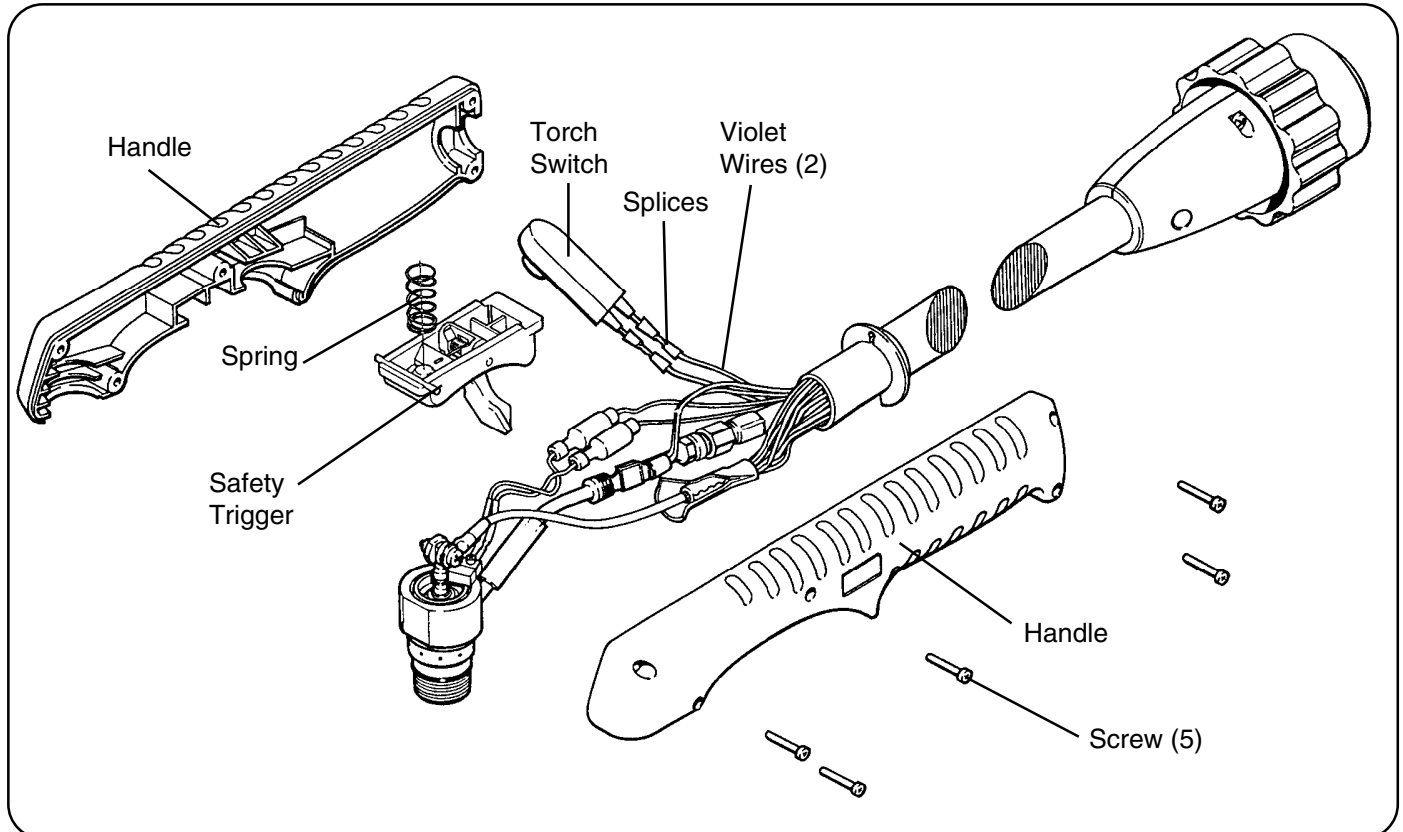

Figure 5-4 PAC121TS Torch Switch Removal
2. Remove the five screws that secure the handle halves together and remove handles from torch main body, torch switch and safety trigger (Fig. 5-4).
8. Install the torch main body and torch switch back into handle (Fig. 5-4). Be certain that the torch switch slides into position above the safety trigger, and that trigger movement activates the switch pushbutton and then releases. While positioning the handle halves together, be careful not to pinch any wires.
To remove and replace the torch switch, order the torch switch and two splices (074069) and refer to the following procedure and Fig. 5-4. See *Parts* later in this section for a complete list of torch parts.